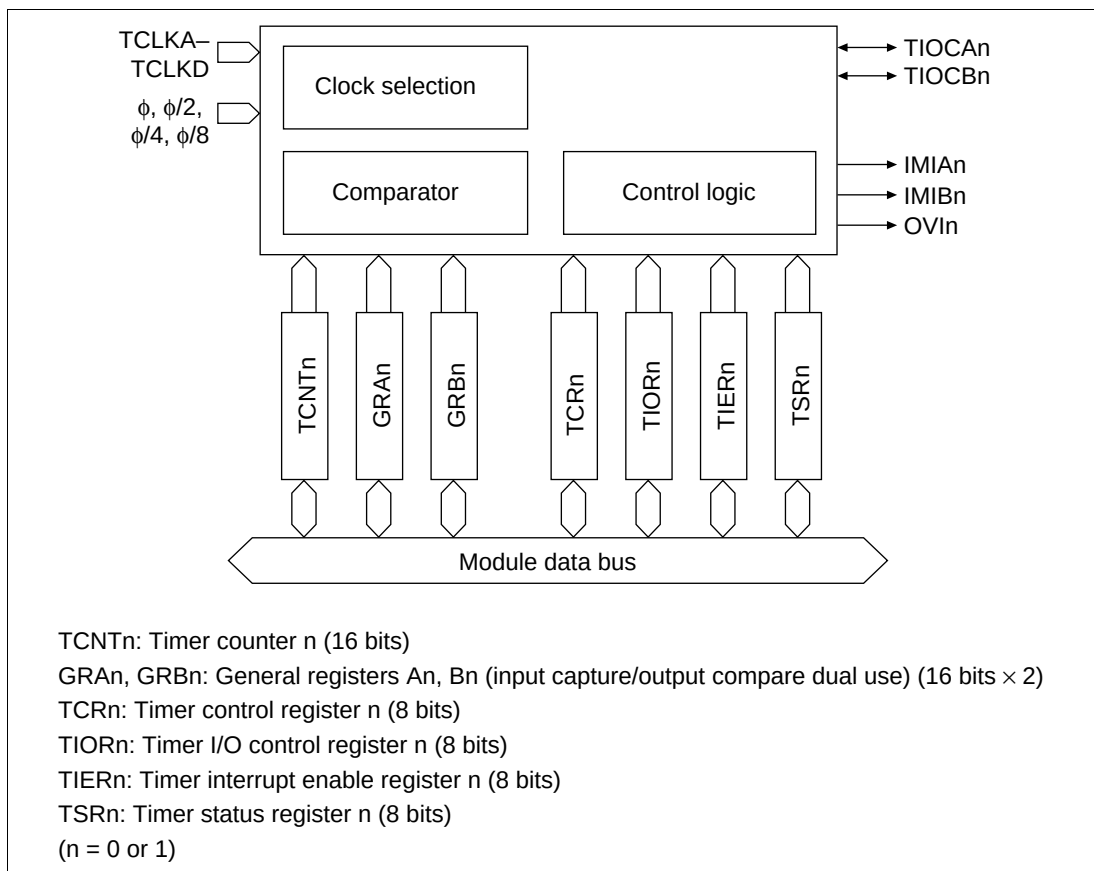

**Figure 10.2 Block Diagram of Channels 0 and 1 (One Channel Shown)**
**Block Diagram of Channels 0 and 1:** ITU channels 0 and 1 have the same function. Figure 10.2 shows a block diagram of channels 0 and 1.